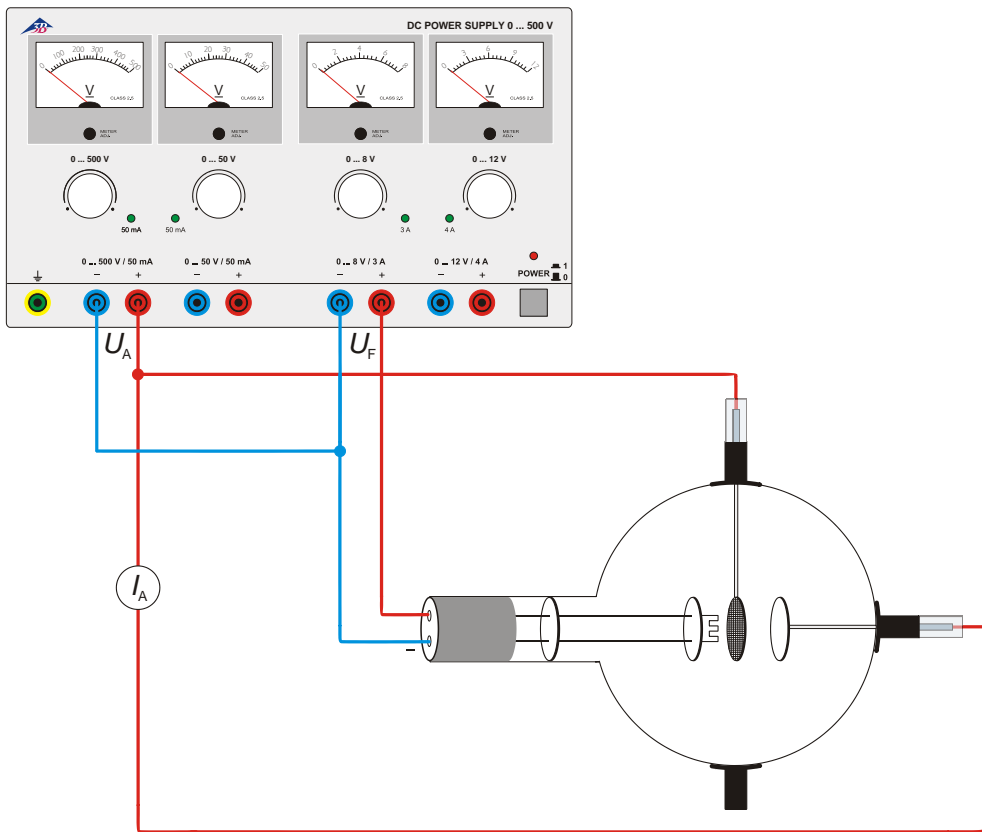

Fig. 2 Evidence for positive charge carriers
- Set up the circuit as in fig. 2.